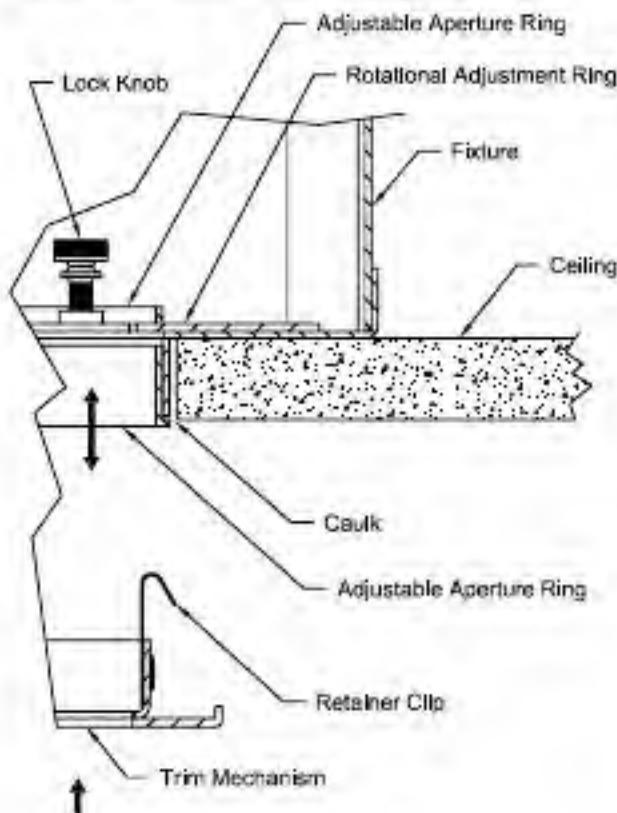

Figure 2
4. Secure Hanger Bars using one (1) nail in Mounting Hole in each Flange.
5. Install Ceiling drywall up to Adjustable Aperture Ring on Fixture. See Fig. 2.
6. Position Adjustable Aperture Ring to be in plane with Ceiling by sliding up or down. See Fig. 1 & Fig. 2.
7. Install Ceiling drywall up to Adjustable Aperture Ring on Fixture. See Fig. 2.
8. Position Adjustable Aperture Ring to be in plane with Ceiling by sliding up or down. See Fig. 2.
2. Install Trim Mechanism into Fixture by pressing firmly to engage Retainer Clips. See Fig. 2.